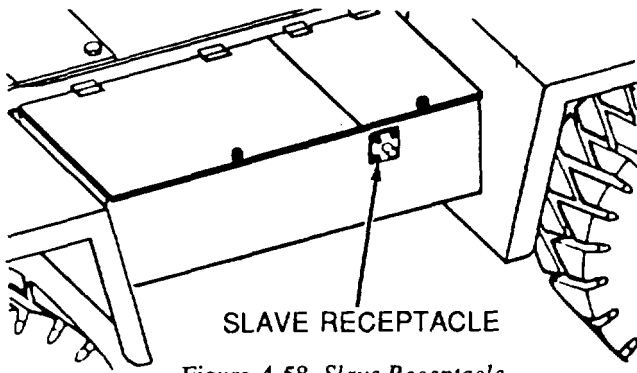

Figure 4-58. *Slave Receptacle*
8. Slave start engine when necessary. Maintain batteries at full 24-volt charge. The slave receptacle on side of battery compartment may be used for charging batteries or slave starting engine from an external power source (Figure 4-58).